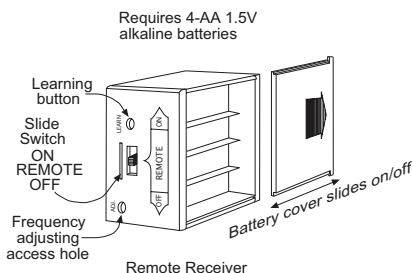

Figure 21 - Attaching Batteries to Receiver
2. Locate the battery cover on the back of the receiver (see Figure 21).